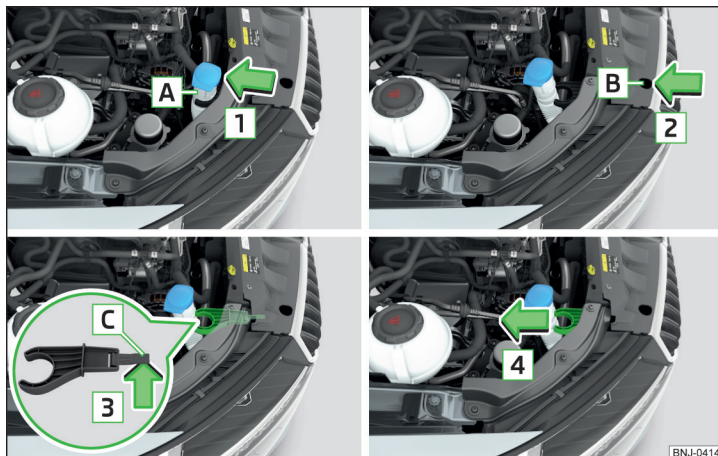

Fig. 287 Remove the mounting for the mopping water container nozzle
- Remove the container nozzle **A** from the holder in the direction of arrow **1** » Fig. 287.
- Slide the holder of the container nozzle in the opposite direction to the arrow **4** » Fig. 287.